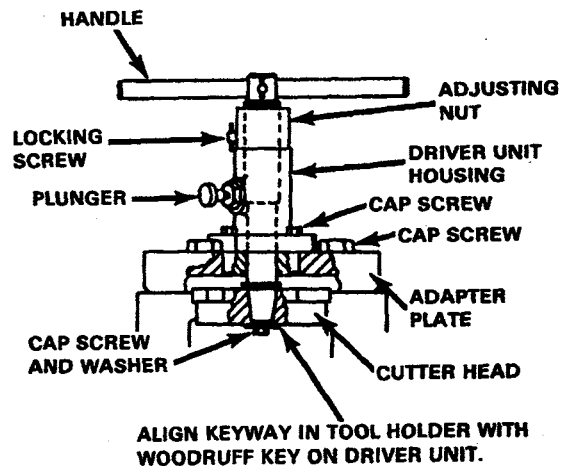
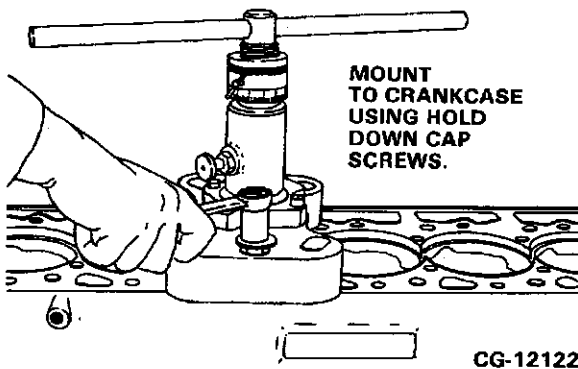

Figure 6.41. Counterboring Tool Components
Figure 6.42. Mount Counterboring Tool to the Crankcase
- b. INSTALL THE CUTTER HEAD onto the driver unit and adapter plate of the counterboring tool. Refer to Figure 6.41.
- c. RAISE THE CUTTER HEAD by pulling the plunger **Figure 6.41** and lifting up on the handle. Mount the counterboring tool assembly to the crankcase as shown in **Figure 6.42**. Tighten the cap screw with washers finger-tight then apply 33 lbf-ft. torque.